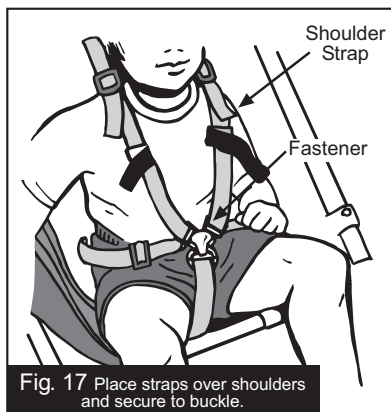

Fig. 17 Place straps over shoulders and secure to buckle.
**HARNES:** To secure your child in the seat, put one strap (grey) over each shoulder and snap the male buckle into the female receiver on the crotch strap (Fig. 17). Adjust shoulder straps to be snug and secure (Fig. 18). Connect and adjust the sternum strap (red), see Fig. 19. **WARNING:** Never place passengers in the stroller without securing them in the harness. Unrestrained passengers can affect the control of the stroller. Passenger Weight Limit - 70 Pounds (32 Kilograms)